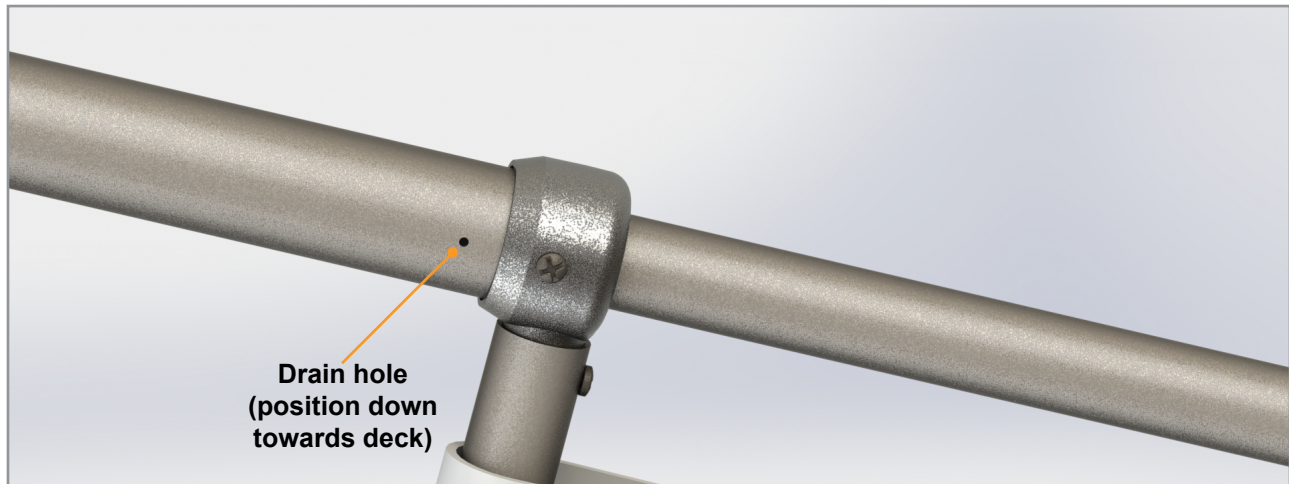

Fig.11
3. Make sure the actuators are oriented properly with the drain holes facing down toward the deck (**Fig.11**).